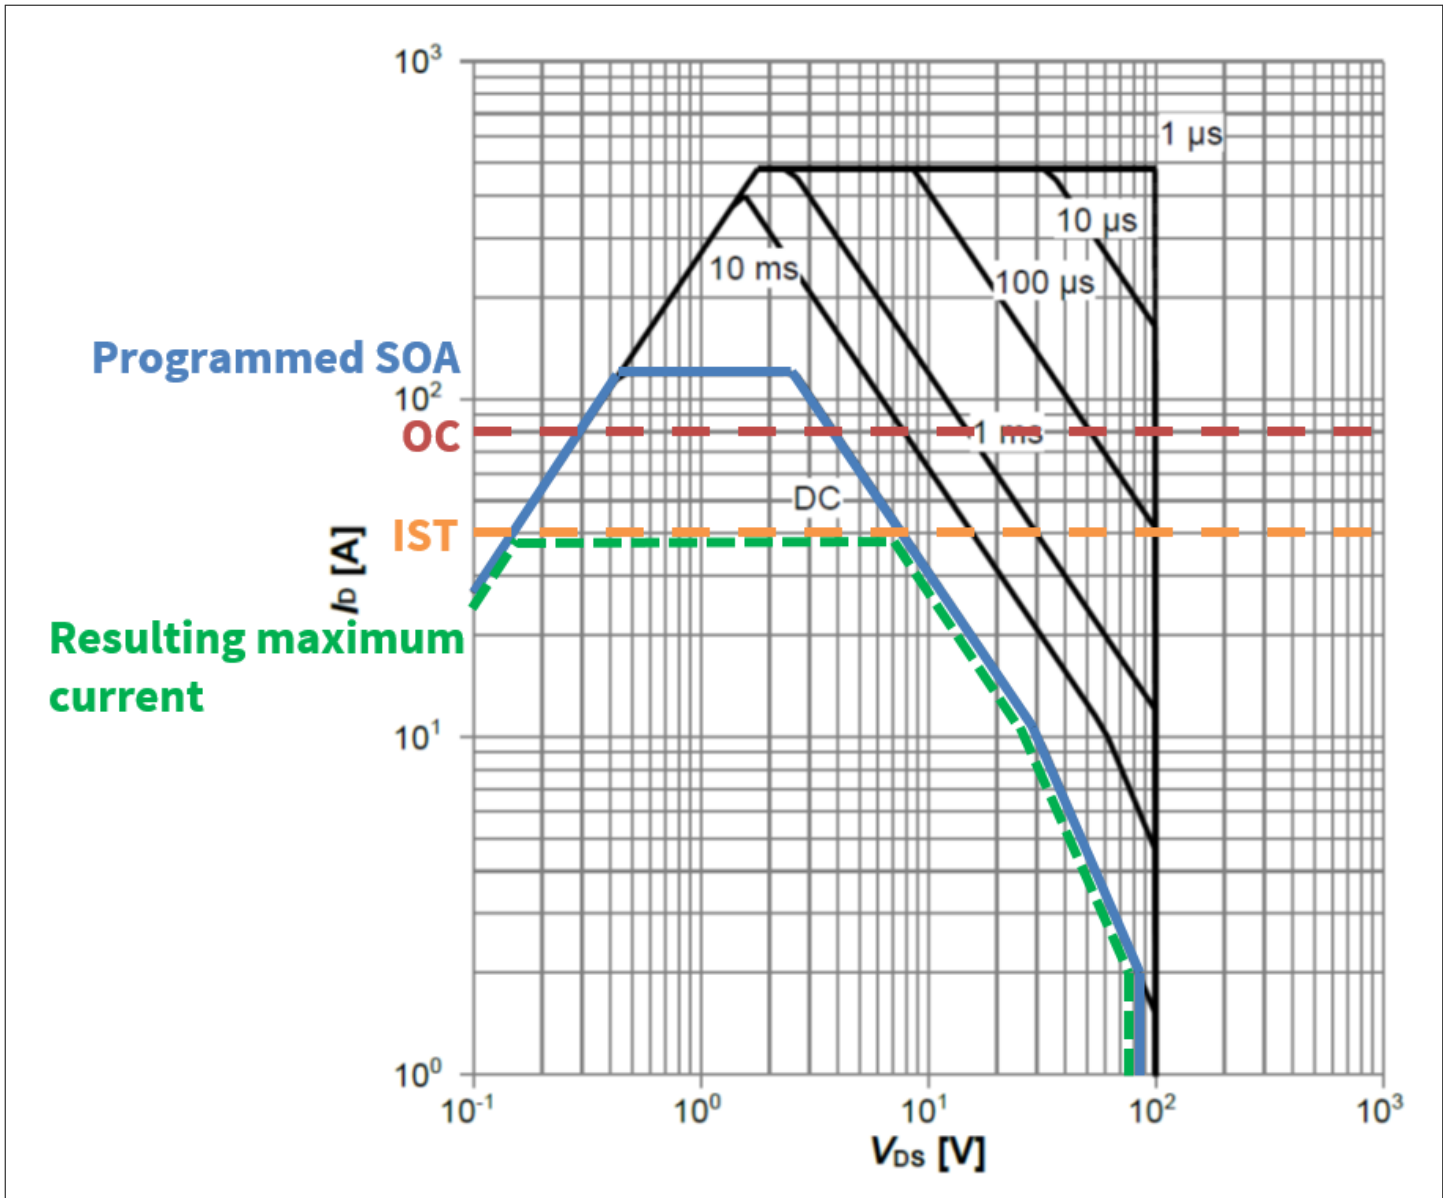

Figure 6 Safe operating area
- XDP710 starts charging the output capacitor by regulating the current through the FET according to the maximum allowed in the SOA. From Figure 6, the DC line allows an $I_{SOA} \cong 4.5$ A at 48 V.